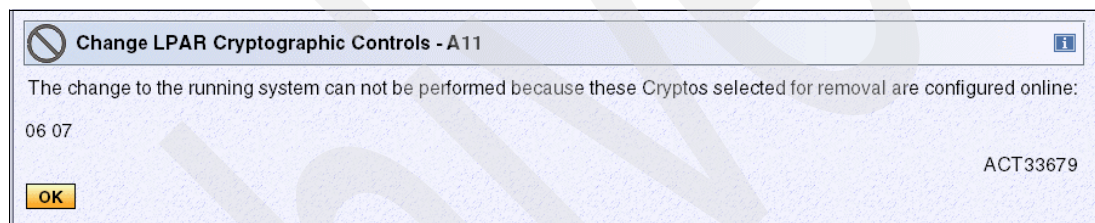

Figure 8-16 SE - Change LPAR Cryptographic Controls, message ACT33679
- Before you change the cryptographic settings using the **Change LPAR Cryptographic Controls** task, check that the cryptographic lists you want to remove from a logical partition are offline (Standby). If you try to remove the lists dynamically while they are online, the change fails and you receive the message shown in Figure 8-16.